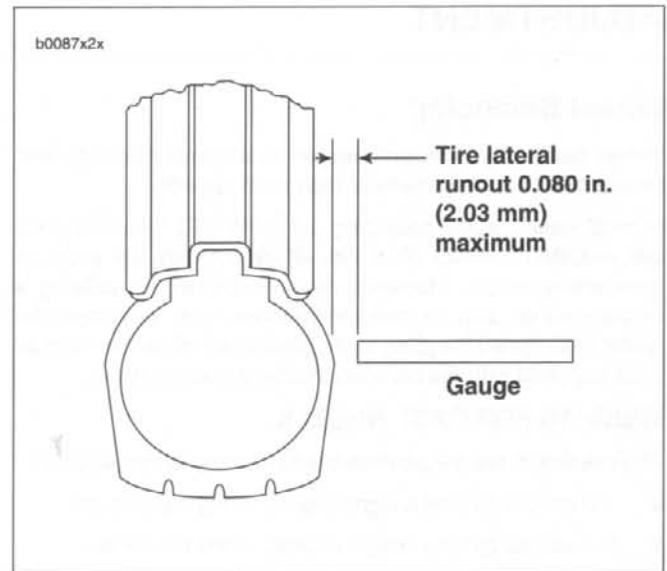

Figure 2-23. Checking Tire Lateral Runout
1. See Figure 2-23. Turn wheel on axle and measure amount of displacement from a fixed point to tire side-wall.